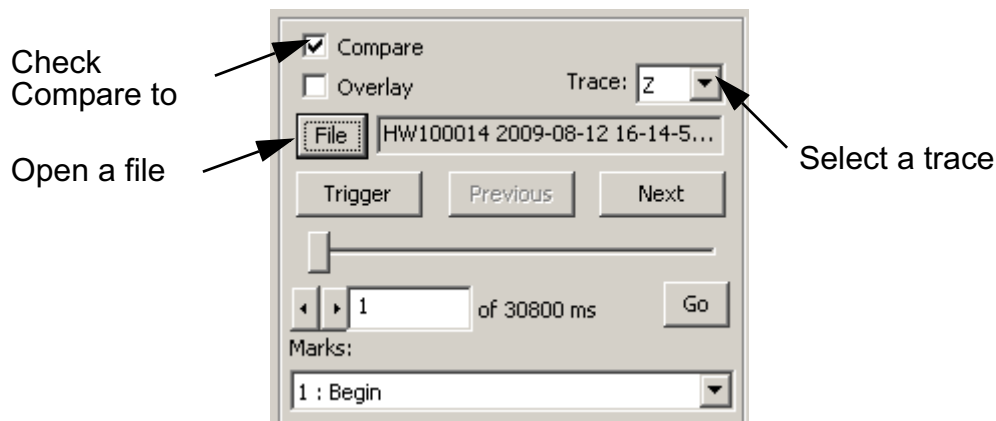

Figure 4.10: Controls for Second Log File
3. In the lower-left corner of the VibeReview window, check the **Compare** box. A second set of log file controls appears (see Figure 4.10).
- To change which trace from the second file is displayed at the bottom of the window, select a different trace from the **Trace** list (see Figure 4.10 on page 4.14).